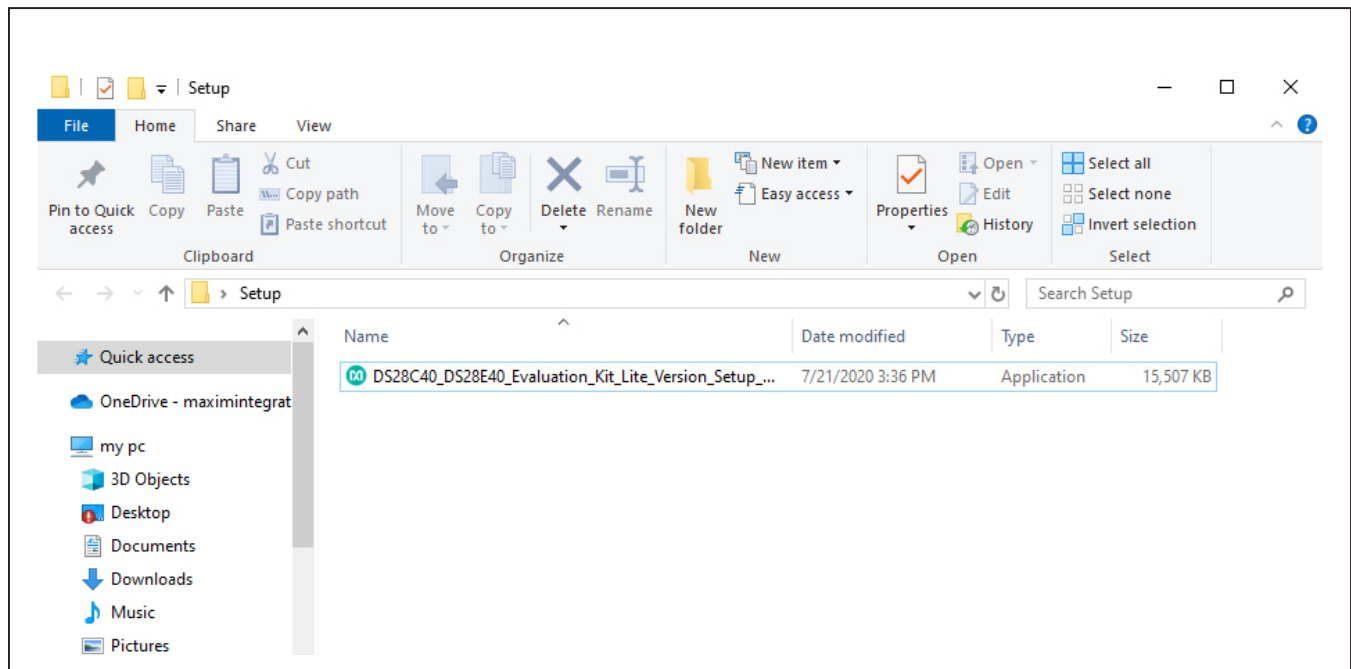

Figure 1. File Viewer
- 2) In a file viewer (Figure 1), double click on the **DS28C40_DS28E40_Evaluation_Kit_Lite_Version_Setup_V2** file to begin the installation.